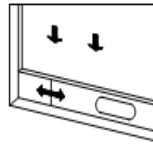
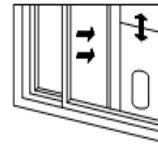

Fig.2
Fig.3
1) Half open the window, and mount the window sealing plate assembly to the window (as shown in Fig.2 and Fig.3); the assembly can be placed in horizontal and vertical direction.